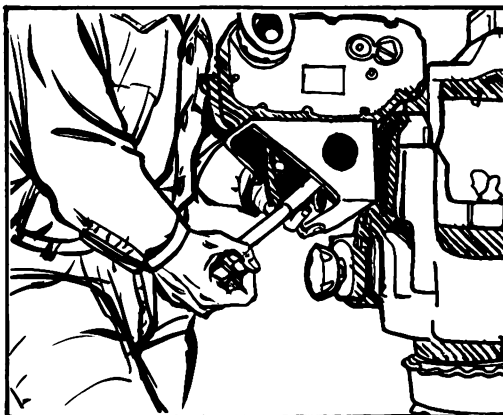

Figure 10. Secure the sight.
- c. Lift up on the latch assembly to secure the sight (figure 10). (Do not let go until you are sure it is secure.)